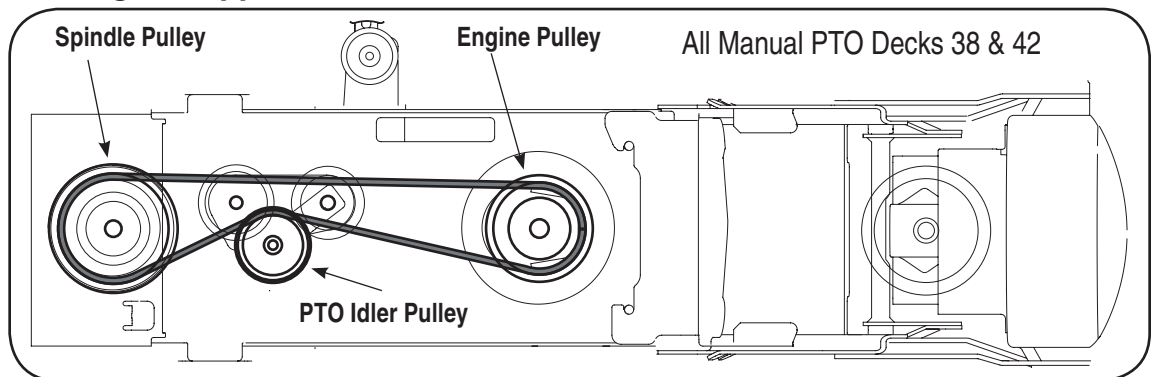

Figure 30
1. Attach and route the upper drive belt around the engine pulley and spindle pulley, routed to the **INSIDE** of the PTO idler pulley on the undercarriage. Make sure the belt is routed inside of the belt keeper pins found around the spindle pulley and engine pulley. See Figure 30.